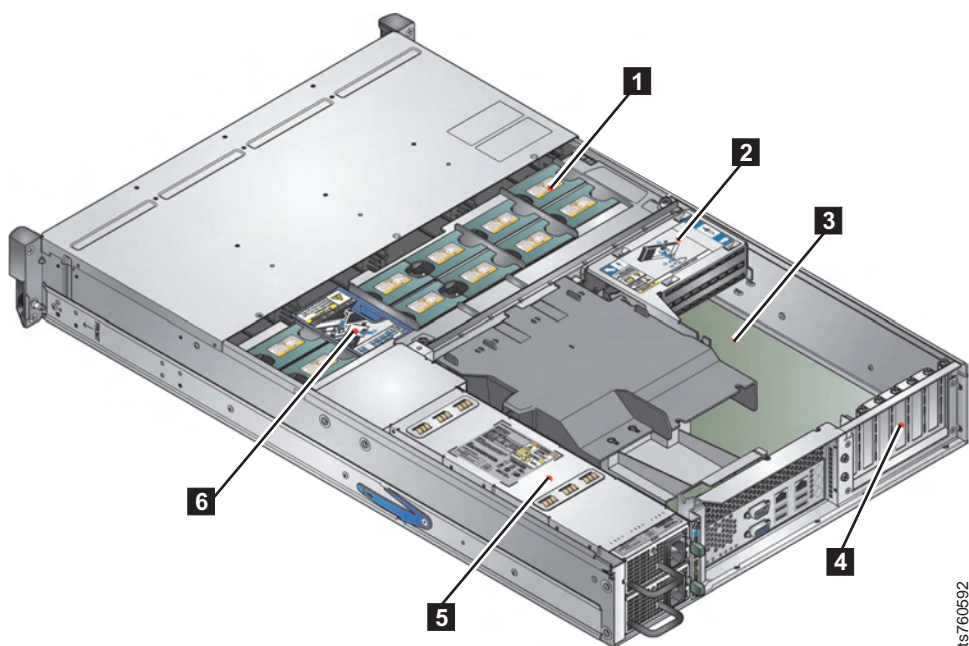

Figure 43. Location of boot drive assembly
4. Refer to Figure 43 on page 66 where **2** shows the location of the boot drive assembly within the chassis.